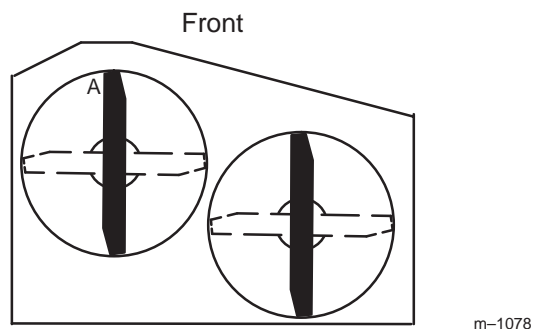
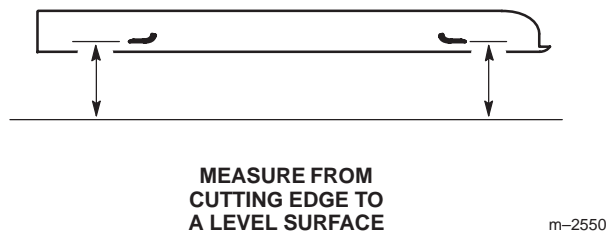

Figure 69
Figure 70
3. With the machine on level surface, position one blade front-to-rear (Fig. 69). Measure at **A** and from level surface to the cutting edge of the blade tips (Fig. 70).